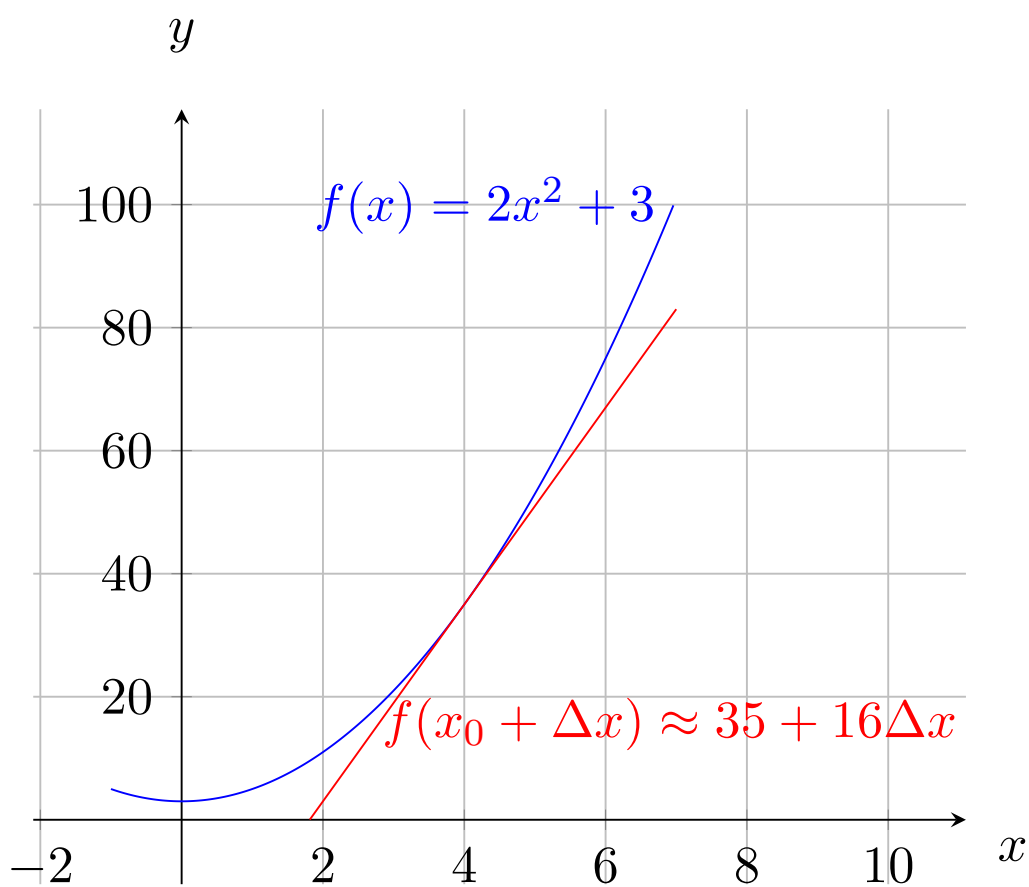

Figure 12: The blue curve shows the second order polynomial, the red line shows its tangent line at point $x_0 = 4$.
Fig. 12 shows a curve and its tangent line. The curve is a second order polynomial $y = f(x) = 2x^2 + 3$.
2. Derive the equation for the tangent line, shown in Fig. 12.